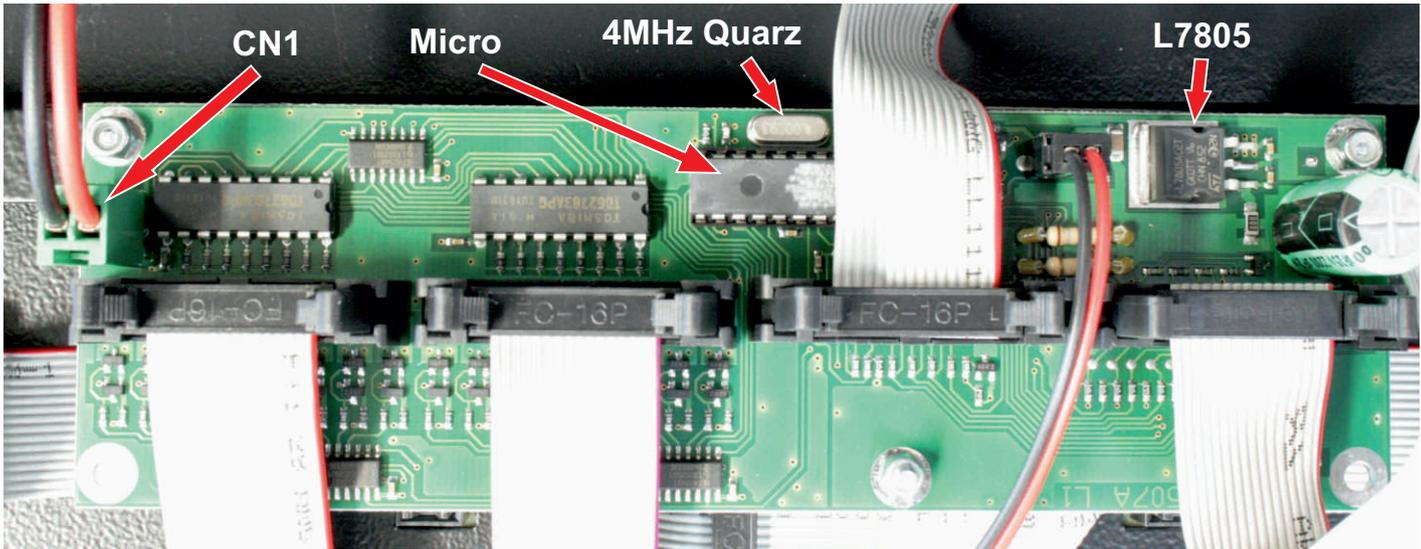

Fig.5 FAV.A507 - CPU Electronic board for PS-x
1.3 Open the scoreboard by unscrewing the 4 screws on the back (see Fig.3 and 4 on pag.2). Verify if there is a +12V power supply on the CN1 connector of the CPU (see Fig.5 on pag. 2). The red wire is positive. If there is not this voltage, in order to identify where occurs the power interruption, you should check the short path from the CN1 connector to the power supply input connector, fixed on the scoreboard case.
- A) On the L7805 component, verify the presence of +12Vdc and of +5Vdc (see Fig.5 and Fig.2 on pag.2). If there is not the +5Vdc voltage, try to replace the L7805 component.
- 1) Extract and reinsert the MICRO (see Fig.5) from the socket, making sure that all pins are straights and not bents.